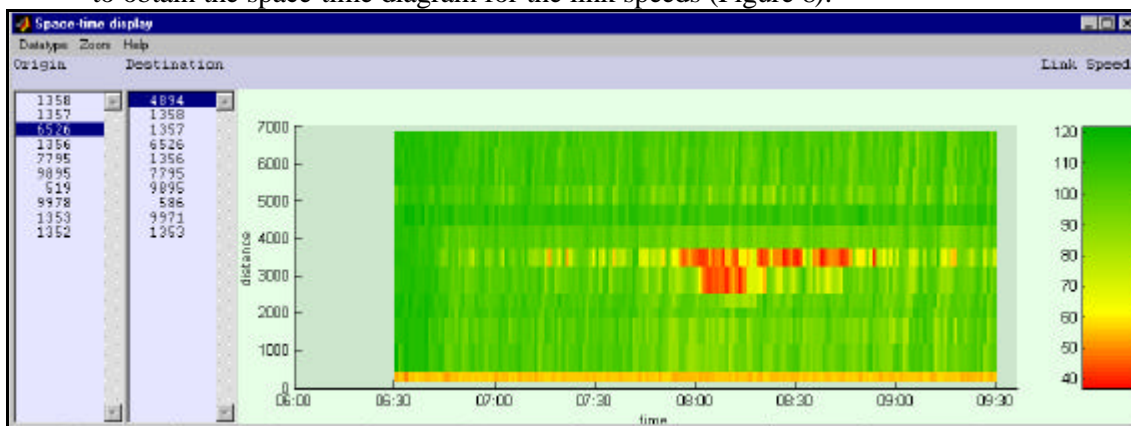

Figure 8: Space-time diagram for the link speeds.
- ◆ Click on “Show space-time representation of speeds and flows” from the “View data” menu to obtain the space-time diagram for the link speeds (Figure 8).